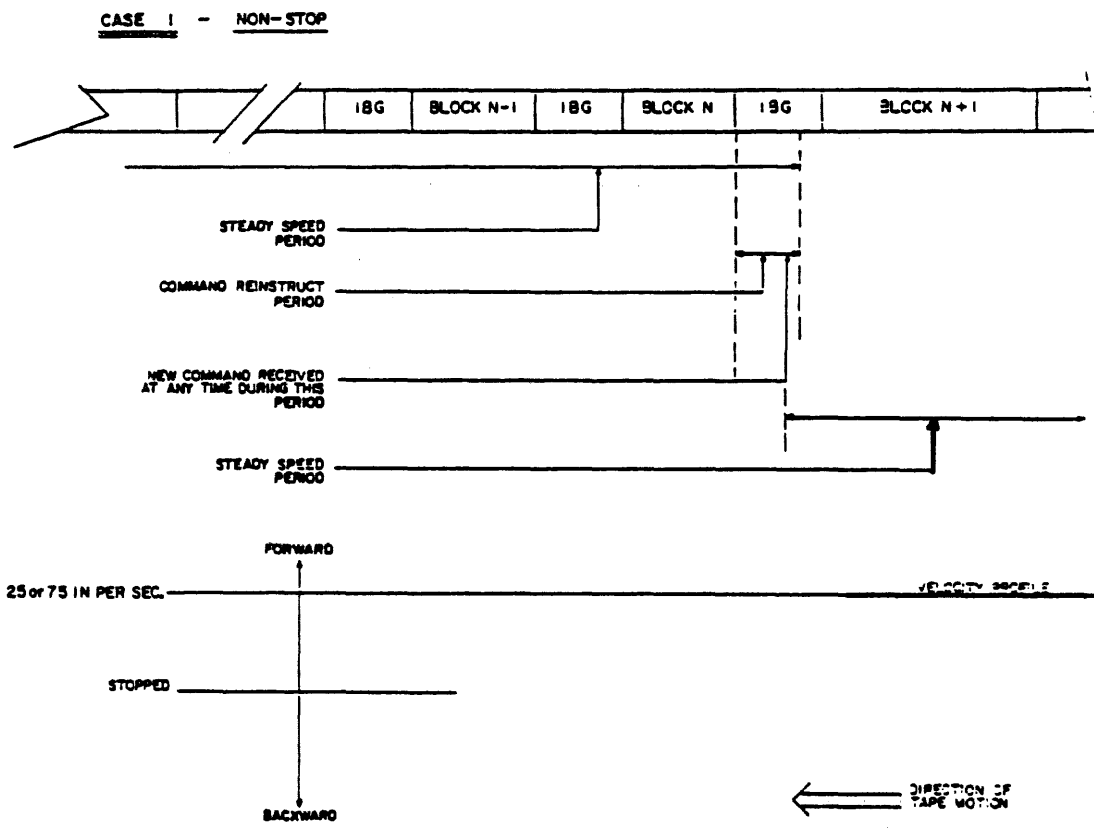

Figure 4-39. TAPE MOTION CONTROL - Case 1
4.11.3.1 Case 1 (Non-Stop) - Command Received During Reinstruction Interval. A command is received sometime during the command restruct period following the data operation on Block N. Note that the velocity profile at the bottom of the figure indicates that full velocity is maintained without interruption through the processing of Block N and N + 1 (see Figure 4-39).